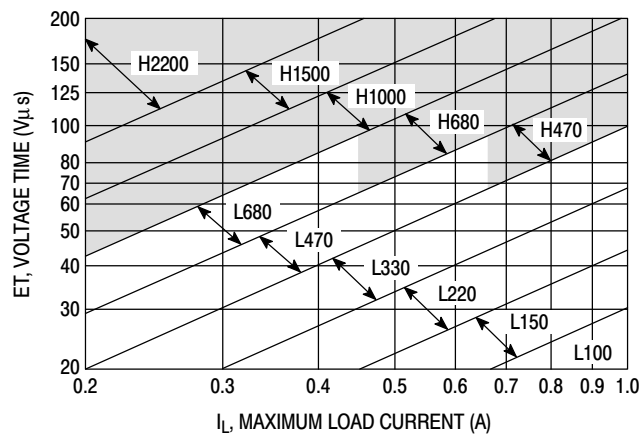

Figure 21. LM2575-Adj
4. Inductor Selection (L1) A. Use the following formula to calculate the inductor Volt x microsecond [V x μs] constant: $E \times T = \left(V_{in} - V_{out} \right) \frac{V_{out}}{V_{on}} \times \frac{10^6}{F[\text{Hz}]} \text{ [V x } \mu\text{s]}$ B. Match the calculated E x T value with the corresponding number on the vertical axis of the Inductor Value Selection Guide shown in Figure 21. This E x T constant is a measure of the energy handling capability of an inductor and is dependent upon the type of core, the core area, the number of turns, and the duty cycle. C. Next step is to identify the inductance region intersected by the E x T value and the maximum load current value on the horizontal axis shown in Figure 21. D. From the inductor code, identify the inductor value. Then select an appropriate inductor from the Table 1 or Table 2. The inductor chosen must be rated for a switching frequency of 52 kHz and for a current rating of $1.15 \times I_{load}$. The inductor current rating can also be determined by calculating the inductor peak current: $I_{p(\text{max})} = I_{\text{Load}(\text{max})} + \frac{\left(V_{in} - V_{out} \right) t_{on}}{2L}$ where t_{on} is the “on” time of the power switch and $t_{on} = \frac{V_{out}}{V_{in}} \times \frac{1}{f_{osc}}$ For additional information about the inductor, see the inductor section in the “External Components” section of this data sheet.	4. Inductor Selection (L1) A. Calculate E x T [V x μs] constant: $E \times T = (12 - 8.0) \times \frac{8.0}{12} \times \frac{1000}{52} = 51 \text{ [V x } \mu\text{s]}$ B. E x T = 51 [V x μs] C. $I_{\text{Load}(\text{max})} = 1.0 \text{ A}$ Inductance Region = L220 D. Proper inductor value = 220 μH Choose the inductor from the Table 1 or Table 2.